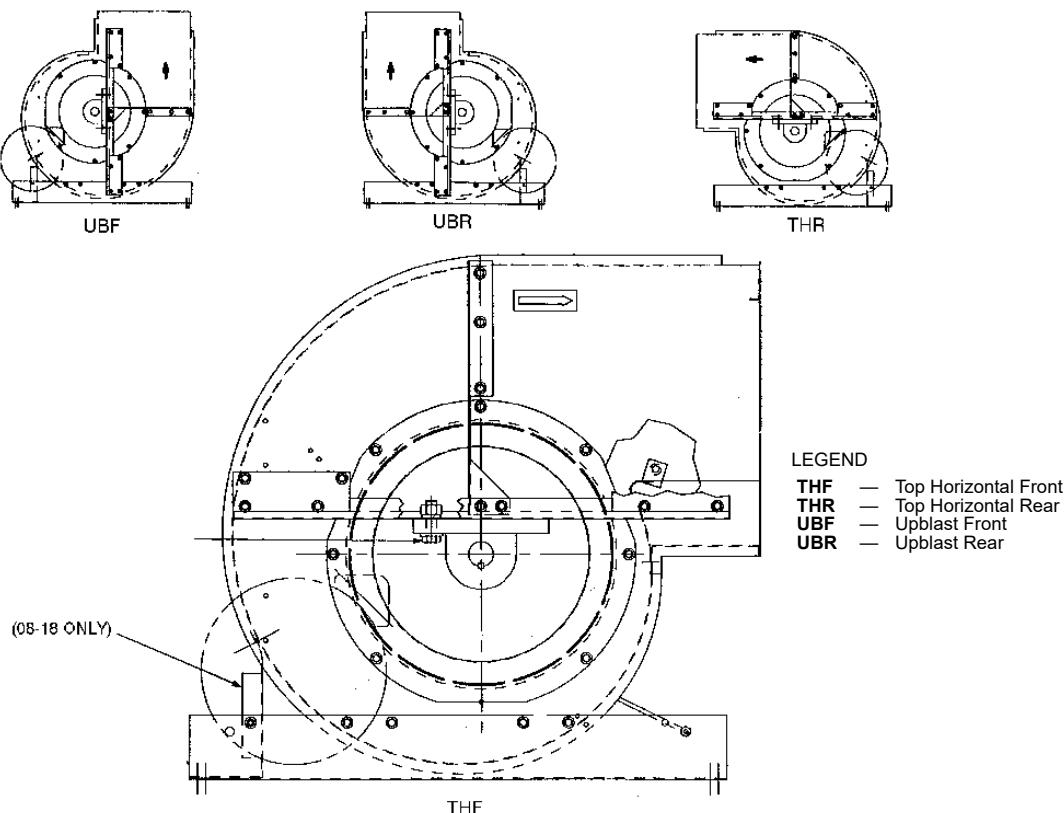

Fig. 61 — Fan Discharge Positions, Sizes 03-18
- Sizes 03-18 — See Fig. 61. It is not necessary to remove the bearing support channels from the fan housing.